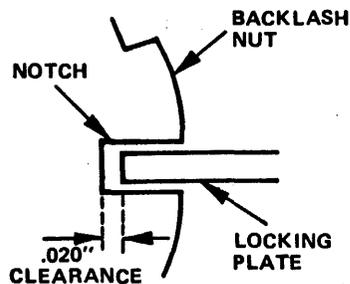

Figure 4-2. Locking Plate Clearance
5. The minimum clearance between the locking plate and the bottom of the notch should be 0.02 inches. If not repeat steps 1 to 4 inclusive. Refer to figure 4-2.